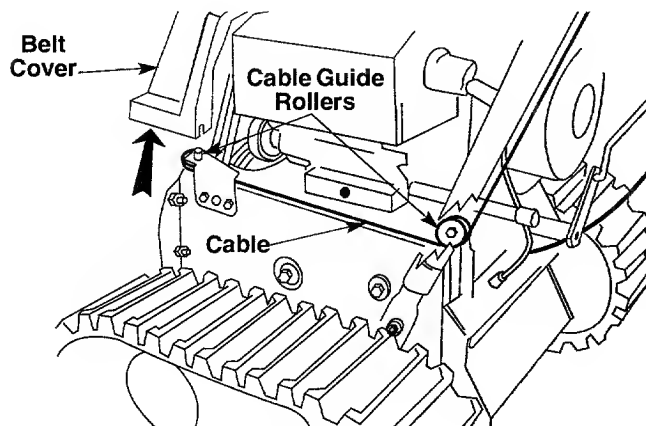

FIGURE 4
- Lift the black plastic belt cover from the front of the engine (shipped loose in position). Refer to figure 4.